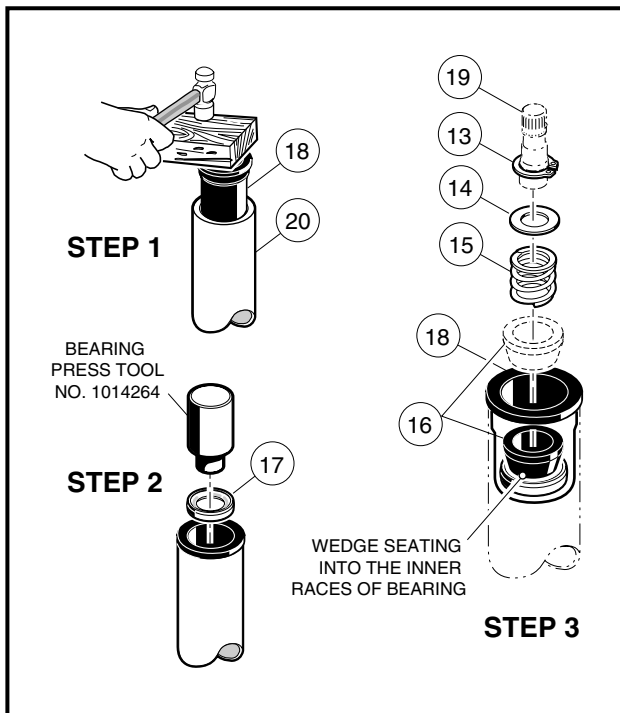

Figure 7-5 Steering Shaft – Bottom End
1. Insert bearing seat (18) into both ends of steering tube (20). Place a block of wood on bearing seat and tap lightly on block until bearing seat (18) is fully seated in steering tube (20) (**Figure 7-5, Page 7-6**).
2. Press the bearing (17) all the way into the bearing seat (18) using a steering column bearing press tool (Club Car Part No. 1014264) or a metal tube approximately six inches (15.2 cm) long with a maximum outer diameter of 1-3/16 inches (3.3 cm) and a minimum inside diameter of 7/8 inch (2.2 cm). Be sure the bearing is installed in the bearing seat as shown (**Figure 7-5, Page 7-6**) so the wedge (16) will ride against the inner race of the bearing.
3. Install the wedge (16), spring (15), washer (14), and snap ring (13) onto the bottom end of the steering shaft (19) (**Figure 7-5, Page 7-6**).
5. Turn the assembly over and place the shaft (19) on a bench. Install the wedge (16) and retaining ring (22) onto the top of the shaft. Be sure the prongs on the retaining ring face up and away from the wedge. Use a steering column retaining ring tool (Club Car Part No. 1014259) to seat the retaining ring to the proper depth. Support end of tube while pressing. If you do not have the recommended tool, use the same tube as was used in Step 2 to press the retaining ring onto the top of the shaft. The retaining ring should be pressed onto the shaft until 2 to 2-1/8 inches (5.1-5.4 cm) of the shaft extends from the top of the bearing seat in the steering tube (**Figure 7-5, Page 7-6**).